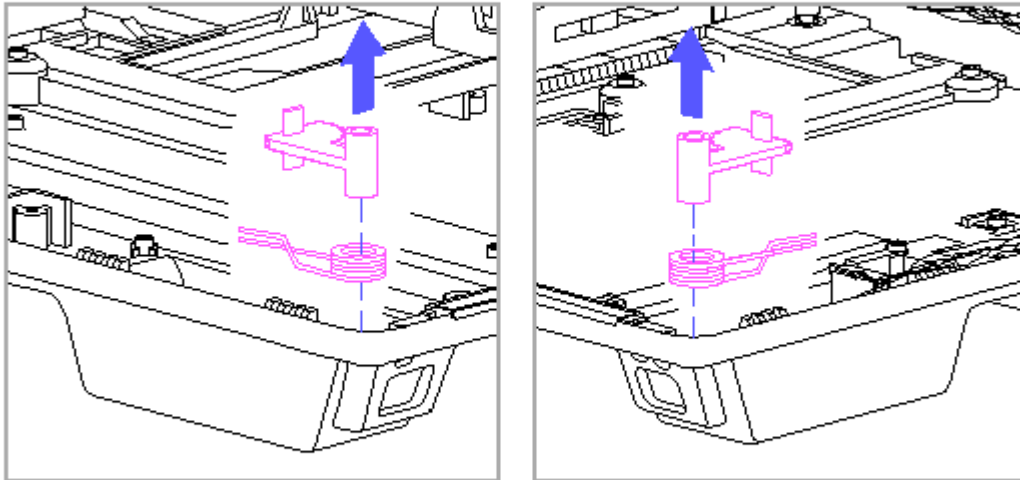

Figure 9-54. Removing the Horizontal Guides and Springs
6. Remove the horizontal guides and springs (Figure 9-54).